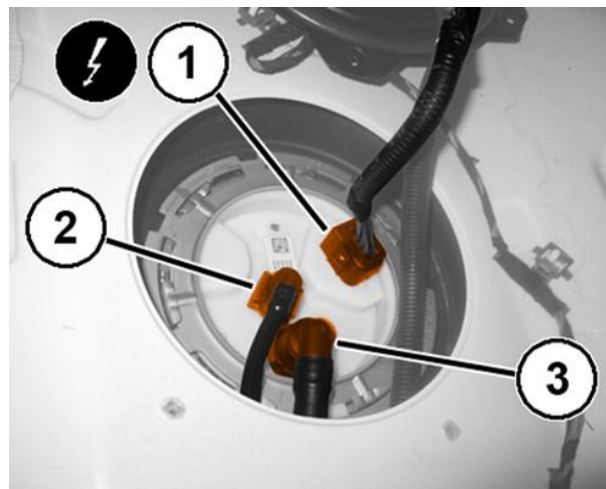

Figure 2 – FDM Connector
9. Disconnect the FDM wire harness connector (1) (Figure 2).
10. Disconnect the quick couplings for the fuel supply and return pipes (2) from the FDM (Figure 2).
11. Disconnect the quick coupling for the fuel breather and vapor recovery pipe (3) (Figure 2).